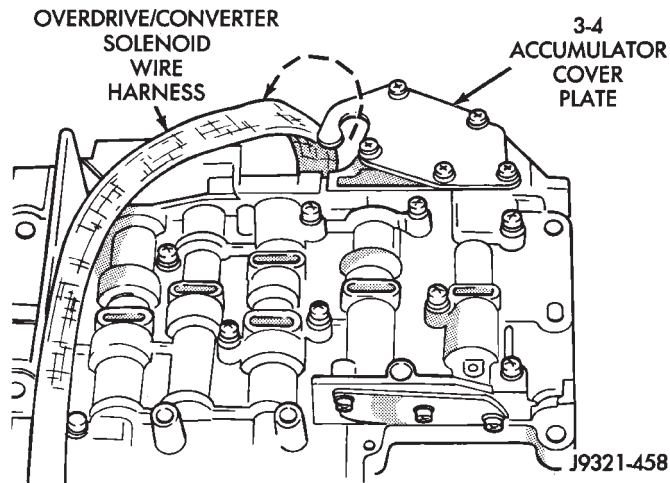

Fig. 49 Unhooking Solenoid Harness From Accumulator Cover Plate
- (9) Unhook overdrive/converter solenoid harness from 3-4 accumulator cover plate (Fig. 49).